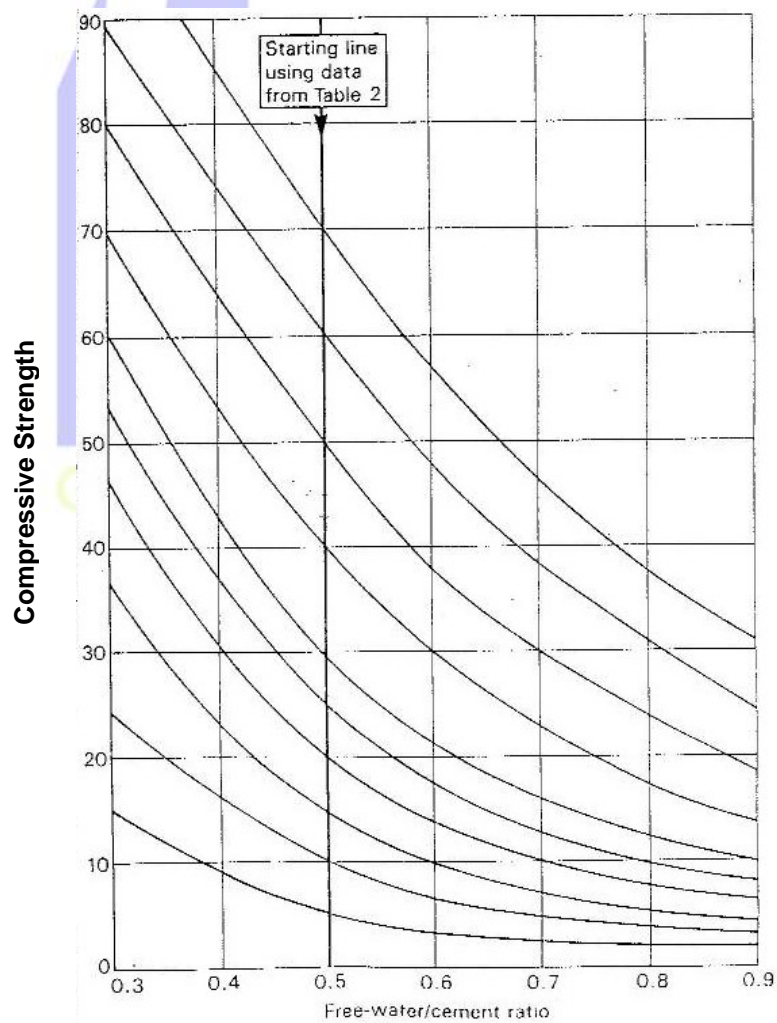

Figure 2: Relationship between compressive strength and free-water/cement ratio
Step 4. The strength value from Step 3 is then plotted on the starting line on Figure 2 (**which corresponds to w/c ratio of 0.5**) and an envelope curve is drawn from this point and parallel to the printed envelope curves until it intercepts a horizontal line passing through the ordinate representing the target mean strength.